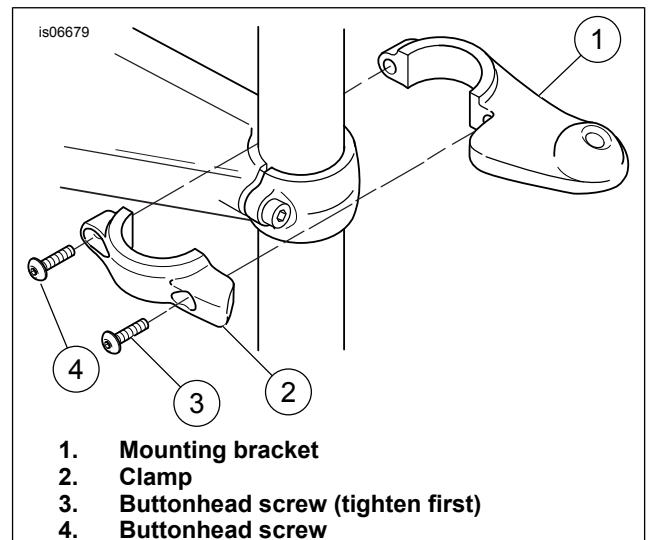
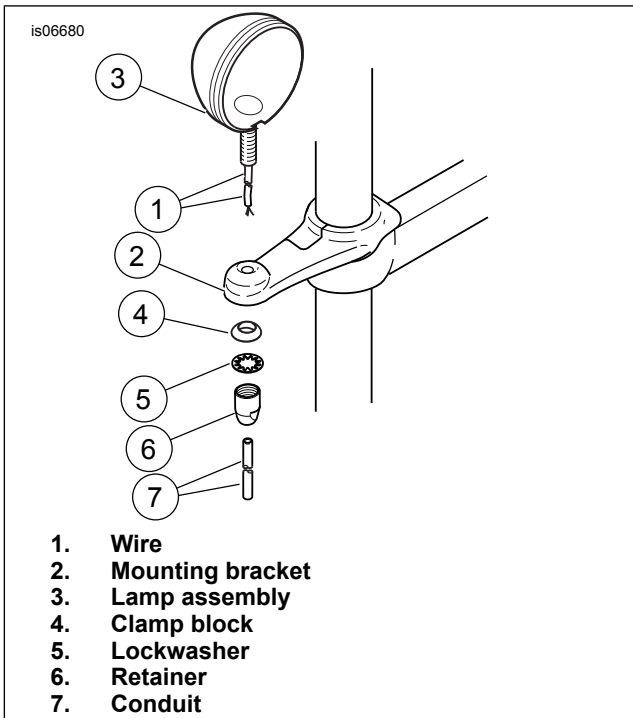

Figure 1. Install Mounting Bracket on Fork Tube (Right Side Shown)
Figure 2. Install Lamps (Right Side Shown)
4. See Figure 1. The mounting brackets (1) and clamps (2) are side-specific. Select the right-hand or left-hand bracket and clamp, and install on the fork tube with two button-head screws (3 and 4) from the kit.
5. Starting with the outer screw (3), tighten to 8–9 N·m (70–80 in-lbs). Repeat for screw (4).
6. See Figure 2. Route the lamp wire (1) through the hole in the mounting bracket (2), and secure the lamp (3) to the bracket using a clamp block (4), lockwasher (5) and retainer (6) from the kit. Tighten the retainer to 16–18 ft-lbs (22–24 Nm).
10. See Figure 2. Slide the conduit (7) from the kit over the lamp wire.